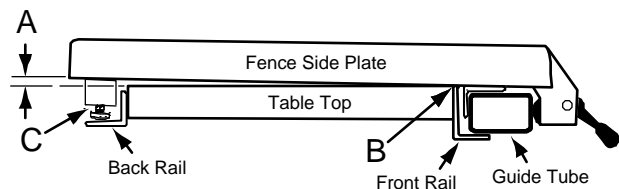

Figure 16
2. View the fence from the left side of the saw (Figure 16). Look for the space *between the table and the fence bottom* to be equal along the entire length of the fence (A, B, Fig. 16).
4. Using a 10mm wrench, loosen the *lock nut* that secures the *foot adjustment* (C, Fig. 16)
5. Rotate the *foot*, retracting it such that it does not come in contact with the *back rail* (Fig. 16).
When the space at points A and B (Fig. 16) are the same:
7. Extend the *foot* (C, Fig. 16) by rotating it until it just comes in contact with the *back rail*.